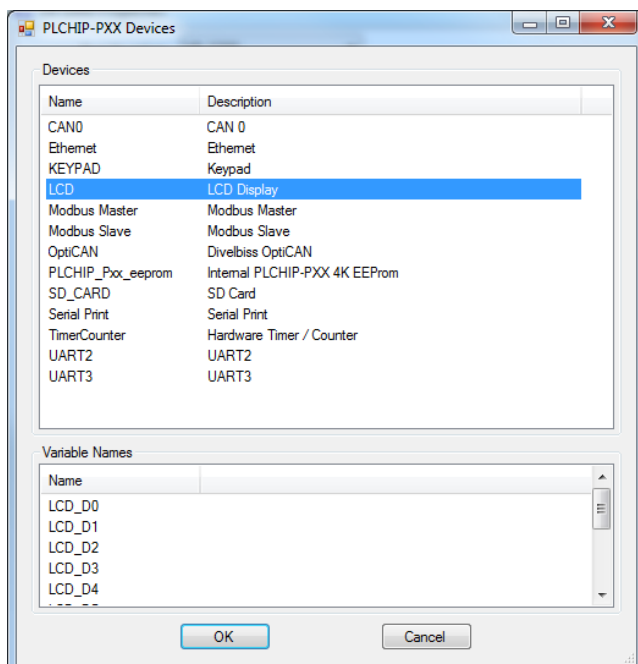
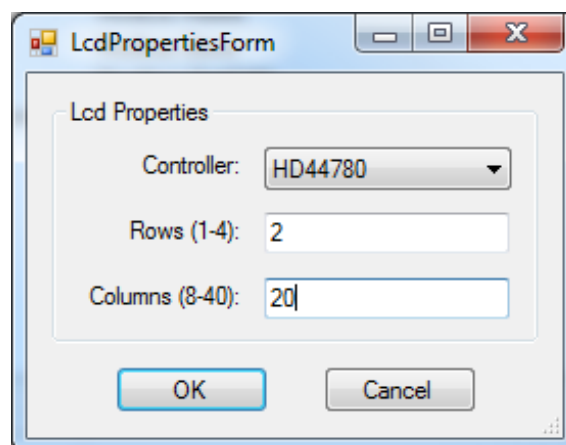

Figure 2-32 - PLCHIP-PXX Devices - LCD
Figure 2-33 - LCD Properties
4. Click the **LCD** device (highlight) and click **OK**. Refer to Figure 2-32. The *LcdPropertiesForm* dialog will open. Refer to Figure 2-33.